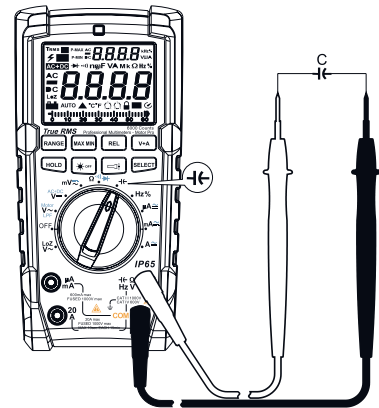

Figure 5
8. Capacitance Measurement (See Figure 5).